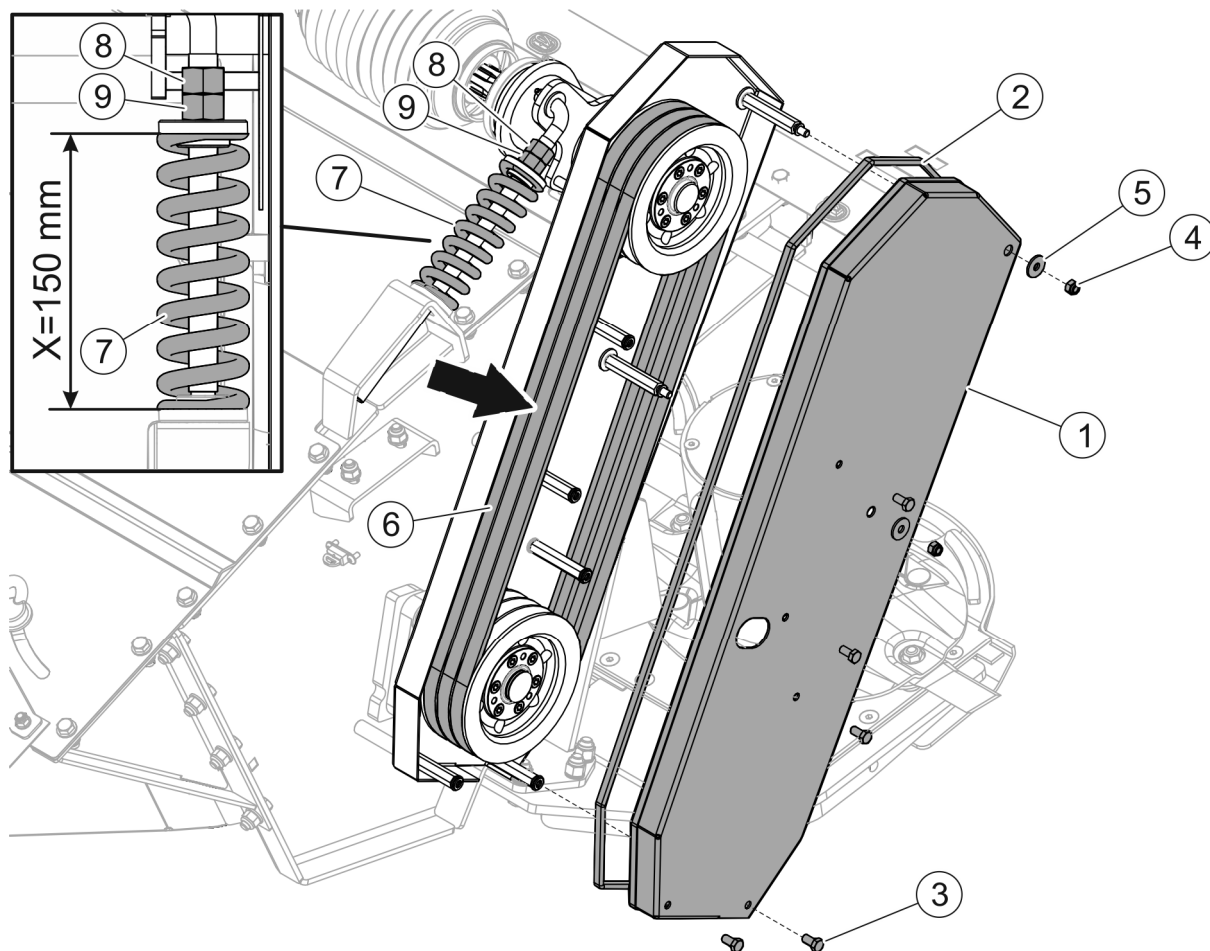

FIGURE 5.6 Belt drive tension adjustment PDF301C / PDF340C
Belt tension (FIGURE 5.6) can be adjusted using the adjustment nut (9) controlling tension of the tensioner spring (7). To do this, unscrew the locknut (8) and tighten the adjusting nut (9) on the bolt to the point where the tensioner spring (7) will be at a minimum tension. The deflection of the belt (6) measured at the mid point between the pulleys (marked with an arrow in the figure) should not exceed 20 mm under the pressure of 7.5 daN (kg) i.e. X=150mm of the spring compressed (7). When finished, tighten the locknut (8).